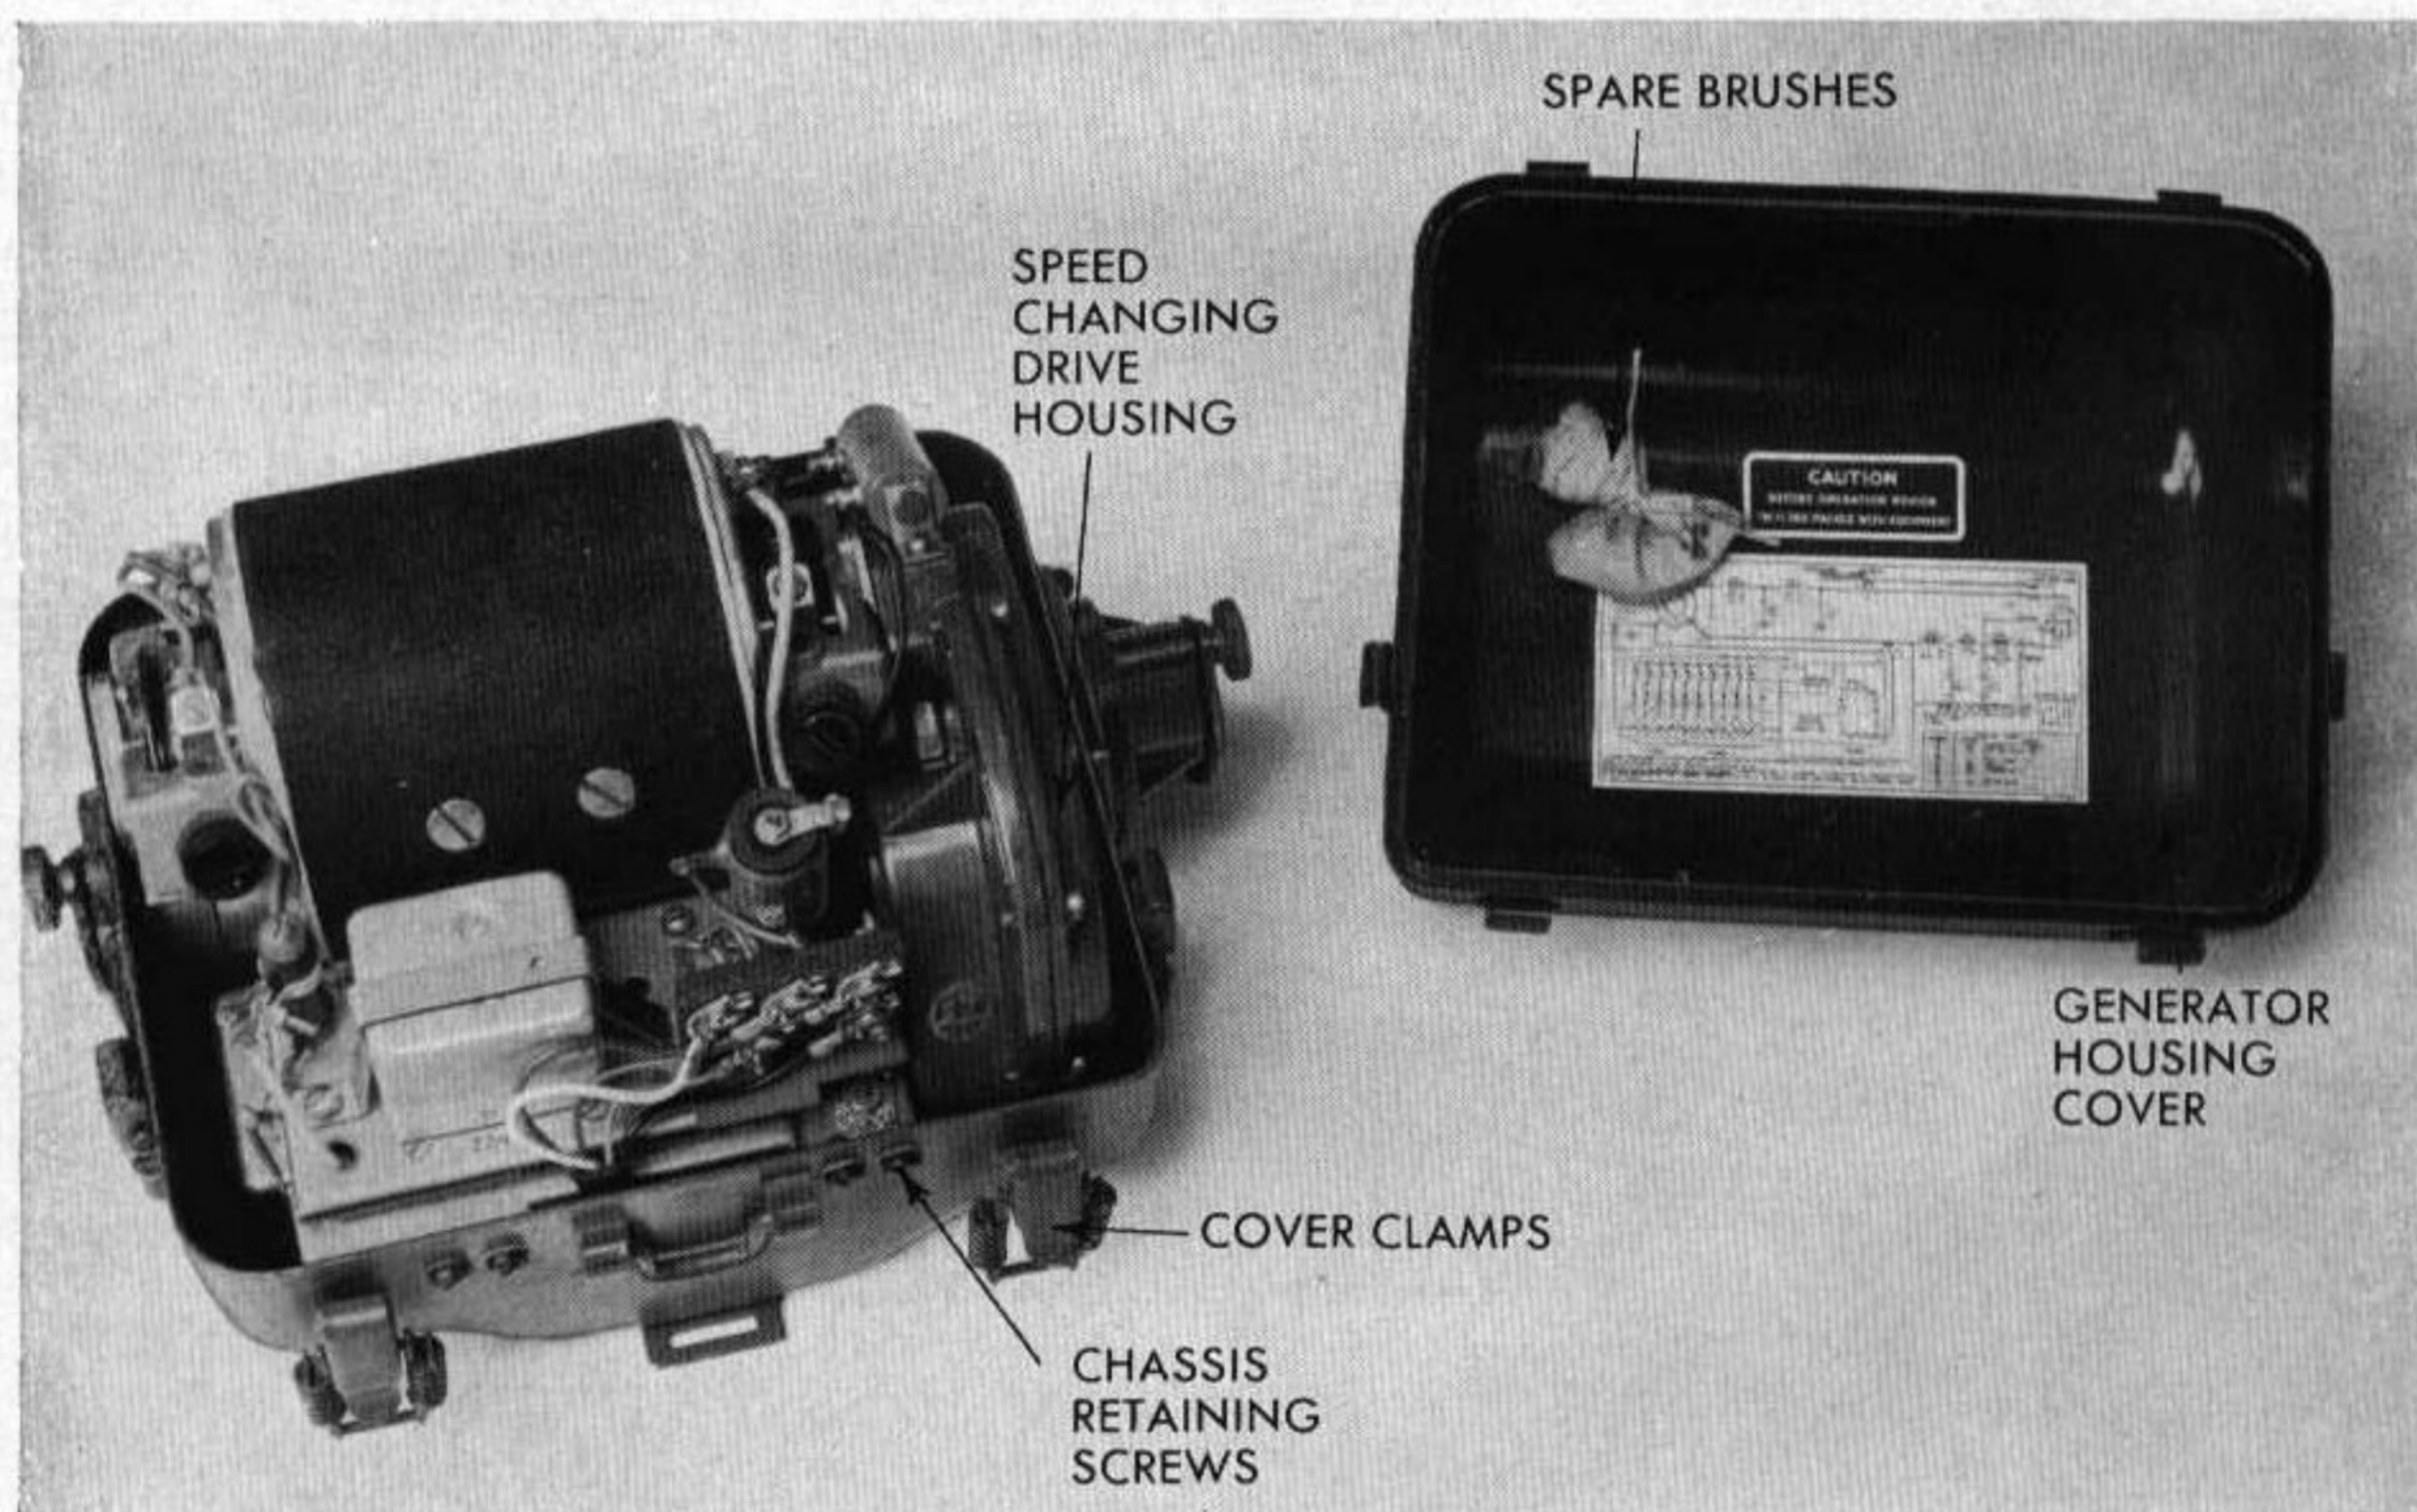

Figure 106. Generator GN-58-A-GY, disassembly illustration.
In order to test the Generator under load conditions, it will be necessary to remove the top part of the housing. To accomplish this, remove the cover clamp lockscrews which fasten the cover clamps to the side of the housing. After opening the cover clamps, the top of the housing should come off easily when lifted straight up. Figure 106 shows the generator with the cover removed. Next, loosen the screw which
h. Remove the terminal strip insulating cover, shown in figure 106, from in front of panel board 239, exposing the spade lug connections on the board.
j. Next remove the seven chassis retaining screws around the top of the lower half of the housing (fig. 106).